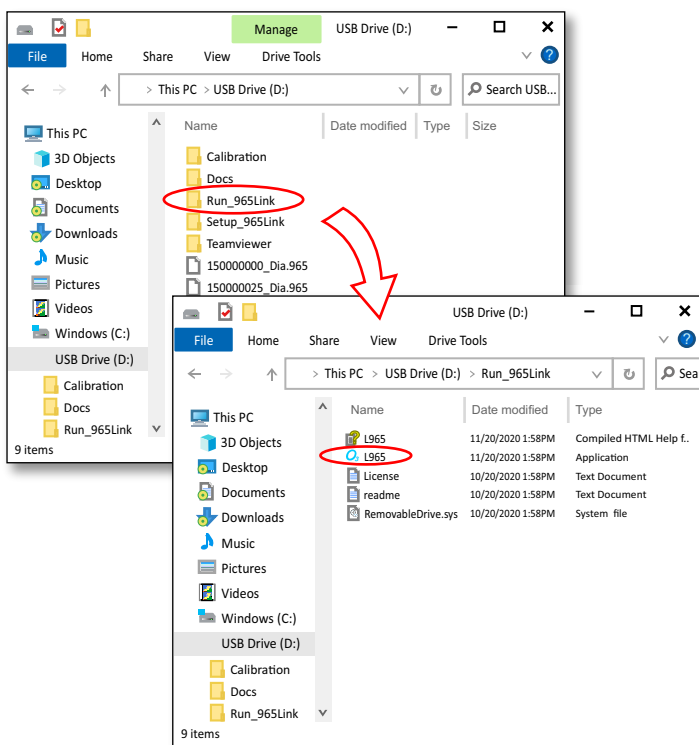

Figure 1
- 3) Open the **USB Drive** to view contents. The USB Drive should contain several folders and files (see Figure 1).